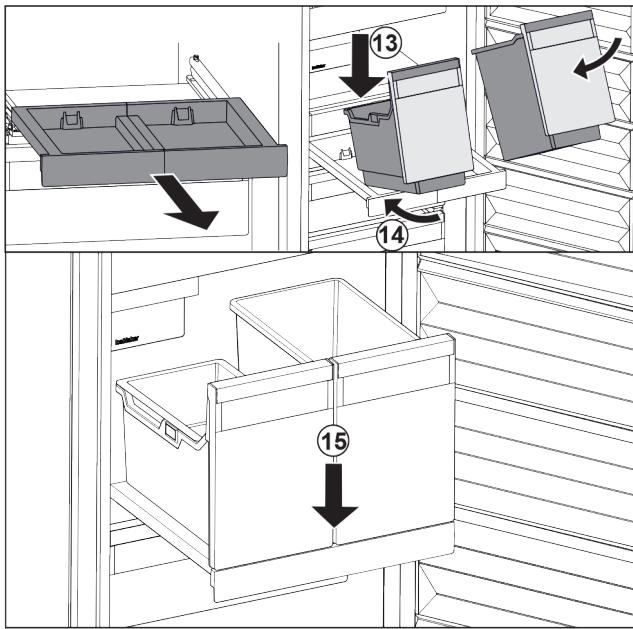

Fig. 100
- Place the container at an angle on the pull-out board. *Fig. 100 (13)*
- Slide in the container at an angle to the back. *Fig. 100 (14)*
- Place container at the front. *Fig. 100 (15)*